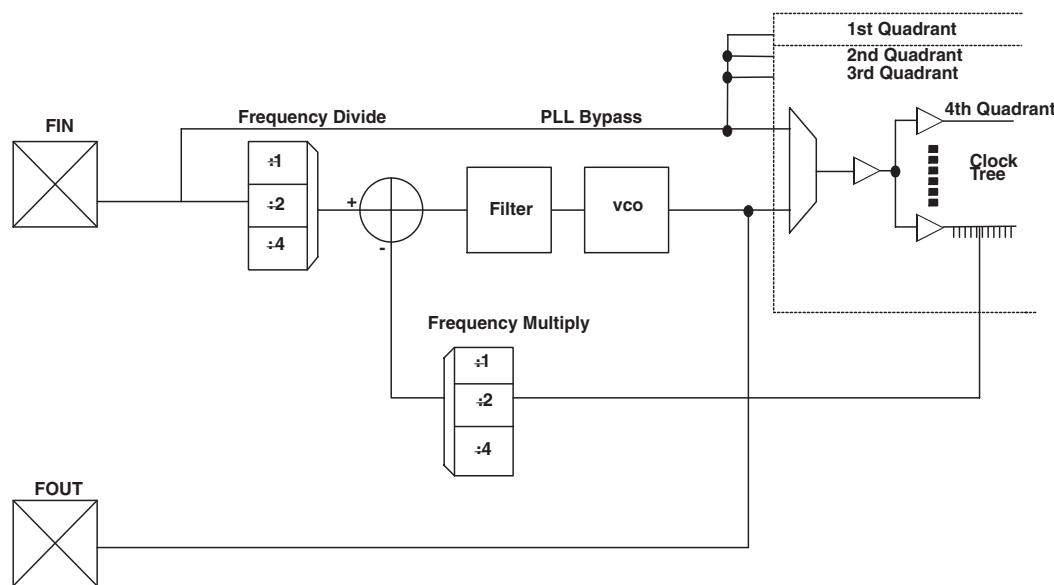

Figure 17: PLL Block
Figure 17 illustrates a typical QuickLogic ESP PLL.
Within the PLL, a voltage-controlled oscillator (VCO) is added to the circuit. The external F_{in} signal and the local VCO form a control loop. The VCO is multiplied or divided down to the reference frequency, so that a phase detector (the crossed circle in **Figure 17**) can compare the two signals. If the phases of the external and local signals are not within the tolerance required, the phase detector sends a signal through the charge pump and loop filter (**Figure 17**). The charge pump generates an error voltage to bring the VCO back into alignment and the loop filter removes any high frequency noise before the error voltage enters the VCO. This new VCO signal enters the clock tree to drive the chip's circuitry.
Most QuickLogic products contain four PLLs, one to be used in each quadrant. The PLL presented in Figure 17 controls the clock tree in the fourth Quadrant of its ESP. As previously mentioned, QuickLogic PLLs compensate for the additional delay created by the clock tree itself by subtracting the clock tree delay through the feedback path.
a. The data provided in **Table 17** are JEDEC and PCI Specifications. QuickLogic devices either meet or exceed these requirements. For data specific to QuickLogic I/Os, see preceding **Table 1** through **Table 13** and **Figure 1** through **Figure 17**.